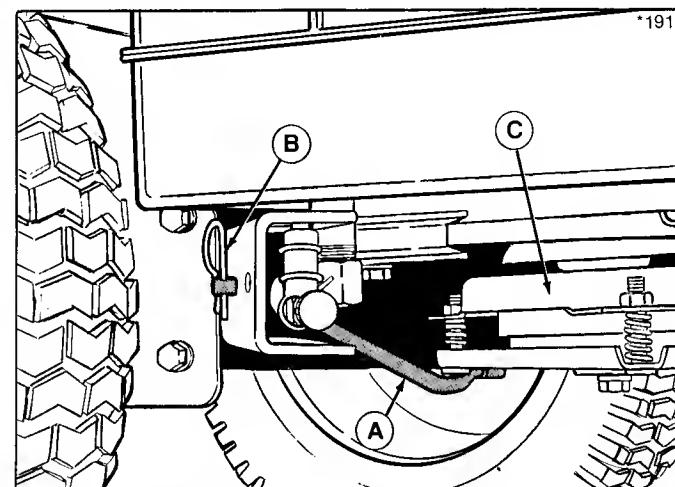

Figure 25. Anti-Spin Rod
7. To remove mower drive belt from electric clutch (PTO) pulley, the anti-spin rod (A) must be removed. Refer to figure 25.
4. **Anti-spin rod must be reinstalled for operation. Electric clutch will be immediately damaged if operated without anti-spin rod.** Refer to figure 25. Install rod to electric clutch. Insert other end through frame and secure with spring clip.